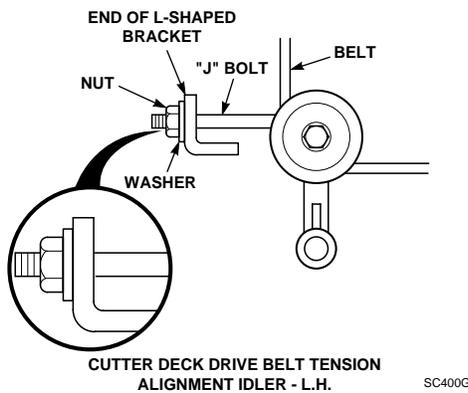

Figure 2. Deck Drive Belt Adjustment
2. Adjust the cutter deck drive belt using a belt tension gauge. Adjust the belt so that the belt moves 1/2" with 10 pounds of pressure. Adjust the tension by tightening or loosening the J-bolt nut. (See Figure 2).